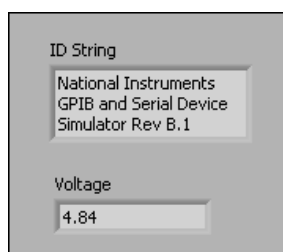

Figure 11.4
2. The front panel in Figure 11.4 will result from building the block diagram.